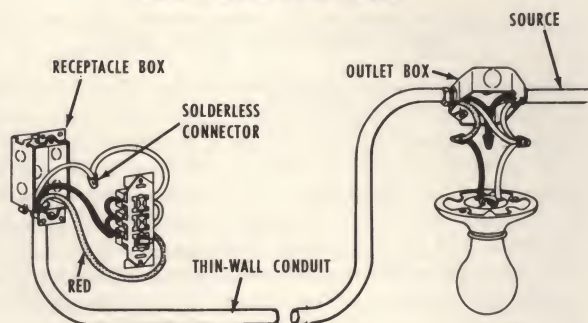

FIG. 48—SWITCH AND OUTLETS ADDED TO CEILING LIGHT
**COMBINATION DOUBLE OUTLET—SWITCH UNIT.** Where practical, a combination wall switch and double plug-in outlet affords greater convenience when added to an existing ceiling light. Use conduit or 3-wire cable. Tap into white "neutral" wire running to fixture and connect to light-colored terminals of plug-in outlet; disconnect black "hot" wire from fixture and run to each of 3 brass-colored terminals. (Note Fig. 48.) Run red wire from remaining terminal on switch to black wire of fixture. Switch controls light only; convenience outlets are always "on".